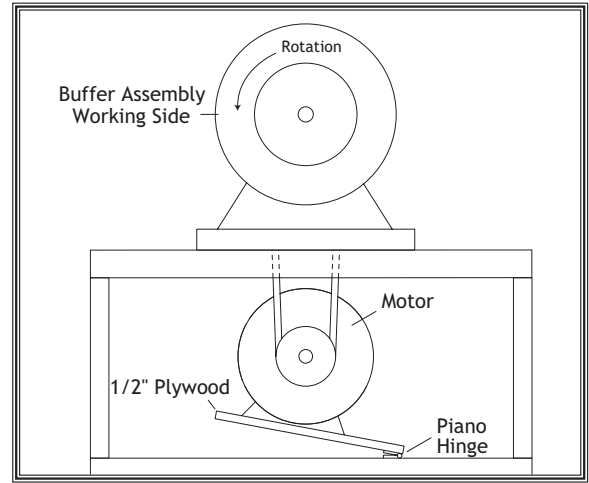

Figure 5. Motor and buffer assembly locations.
5. Mount the motor on a 1/2" plywood platform below the buffing assembly so that the motor pulley is directly beneath the arbor pulley. Be sure to orient the motor rotation so the buffing wheels will be rotating downward on the working side of the buffing assembly. Attach the platform to the workbench using a piano hinge, as shown in **Figure 5**.